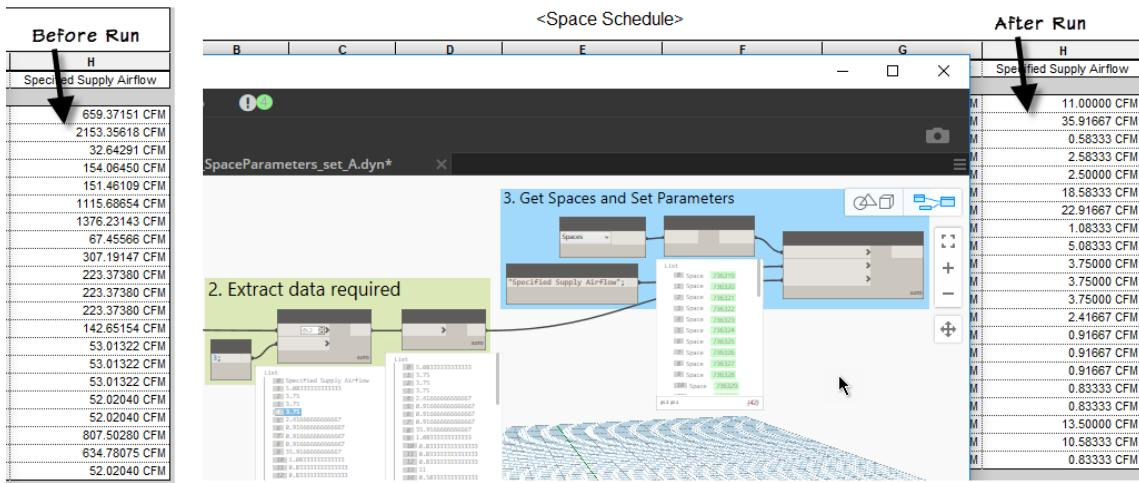

Figure 72
18. Run the graph (see Figure 72).